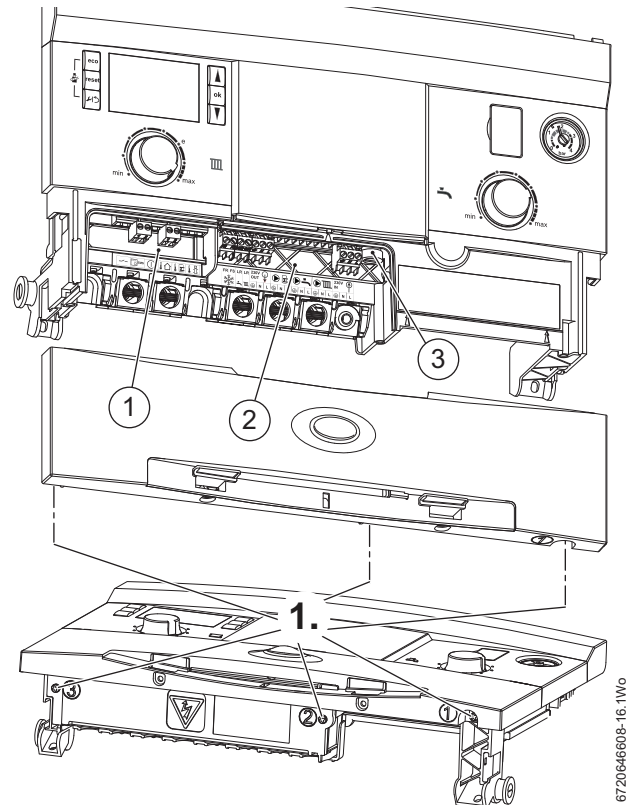

Fig. 40 Removing the installer access cover
1. Refer to figure 40 and release the three captive screws securing the Installer access cover.